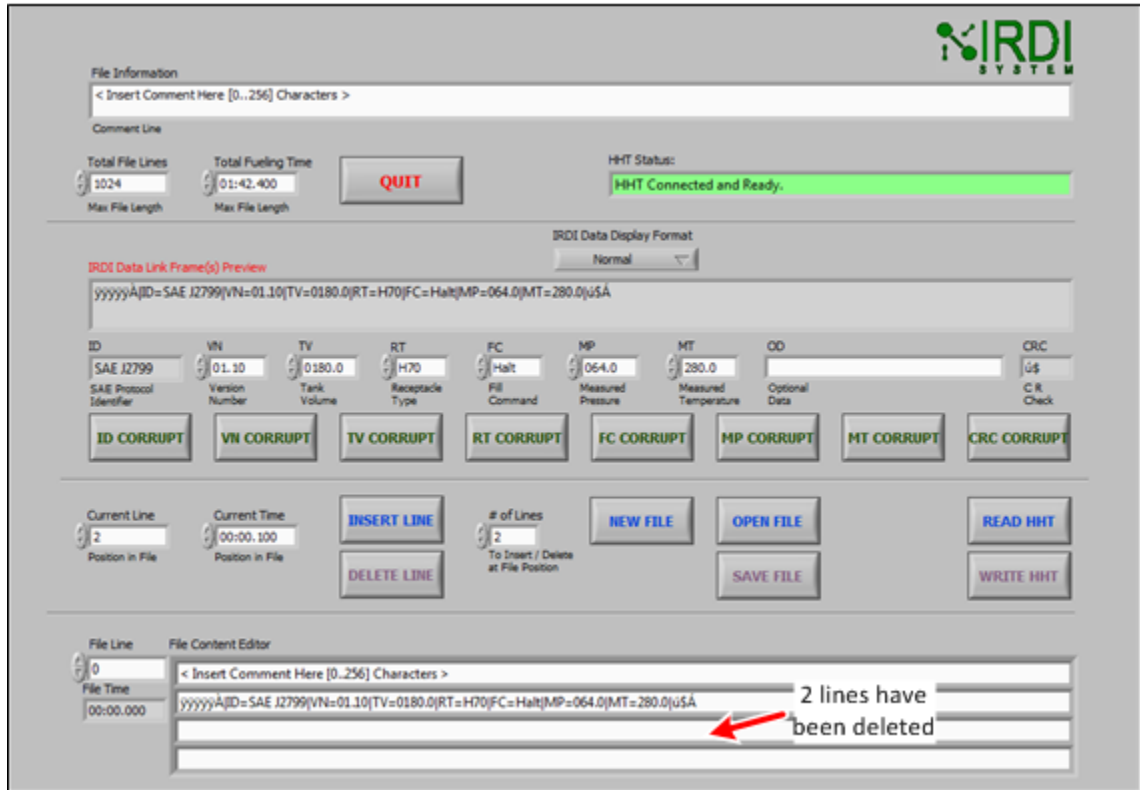

FIGURE 5-22 HHT TEST PATTERN SOFTWARE – LINES DELETED
STEP 4	View the file contents under “File Content Editor”, to make sure that the correct lines have been deleted – see Figure 5-22.